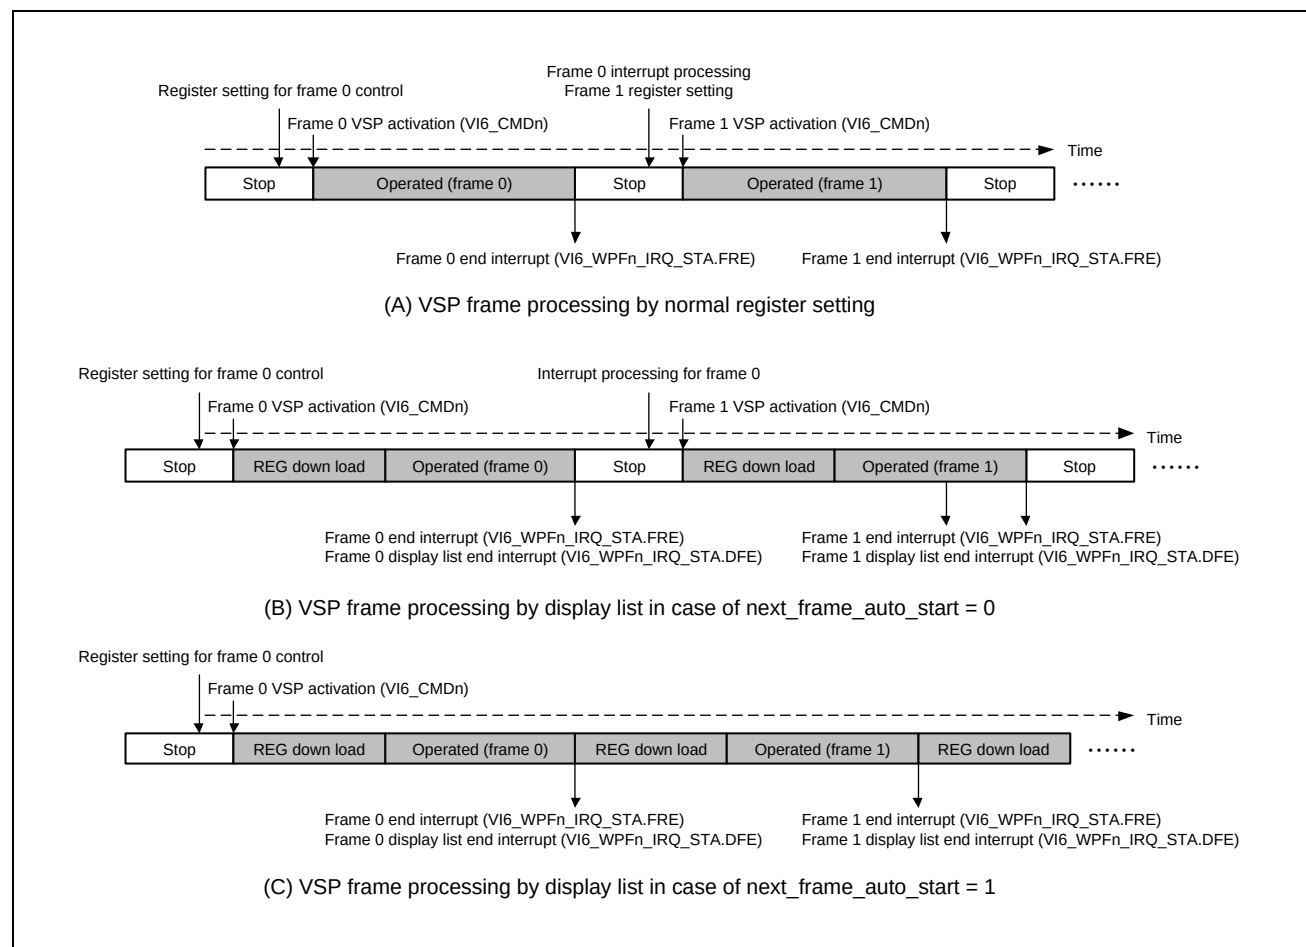

Figure 9.4-35 Comparison of VSPD Operation between Normal Register Settings and Display Lists
To use display lists, specify the external memory addresses to the display list control registers described in **9.4.3.2.5 Display List Control Registers**. The register settings or various types of information should be stored in external memory in the format described in **9.4.5.5.2 Normal display list mode**. **Figure 9.4-35** shows the difference between VSPD operation through normal register settings and through display lists.
As shown in **Figure 9.4-35 (A)**, in the VSPD processing through normal register settings, all registers should be set up before the VSPD is started for each frame. After the VSPD processing is completed, the VSPD outputs a frame end interrupt (VI6_WPFn_IRQ_STA.FRE). This method requires a certain amount of time for register settings or interrupt processing by the CPU between frames. In contrast, when display lists are used, the VSPD automatically downloads register settings from external memory as shown in **Figure 9.4-35 (B)** and **(C)**, which reduces the load on the CPU between frames.
Figure 9.4-35 (B) shows the display list usage where the VSPD stops at the end of every frame; only the VSPD start processing for each frame is done by the CPU. This is suitable for the cases when the CPU controls synchronization of frame processing in frame buffer management or when the amount of register values or table data to be set in the VSPD is large. In the case shown in **Figure 9.4-35 (C)**, as soon as the frame processing ends, the VSPD automatically begins next frame operation and starts downloading new register settings. This is the fastest operation using display lists.
After processing of a frame ends, the VSPD proceeds to the next frame processing. Here, there are two modes for starting the next frame processing as shown in **Figure 9.4-35**. In one mode, the VSPD stops operation and waits for the next activation by the CPU in the same way as when display lists are not used. In this mode, the address used for downloading the display header of the next frame is kept by the internal hardware. Therefore, if valid address information is not stored in the display header for the previous frame, a correct value should be specified in VI6_DL_HDR_ADDR0 while the VSPD is stopped. When the VSPD is started after a correct value is specified, the VSPD starts next frame processing with the same procedure for the previous frame. In contrast to this mode, which stops the VSPD after the end of one-frame processing, there is another mode for automatically starting next frame processing. In automatic start mode, the VSPD downloads the next display header as soon as the previous frame processing ends. After downloading ends, the VSPD starts image processing. The information regarding mode selection, that is, whether to automatically start next frame processing, should be stored in the display header downloaded for the previous frame.